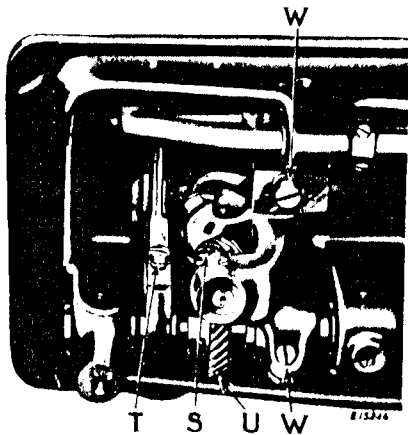

Fig. 21. Adjustment of Hook Saddle
Loosen the two screws in the hub of the hook driving gear (U, Fig. 21) and tap this gear to the right on the hook driving shaft for an earlier hook timing, or to the left for a later hook timing. When the correct timing is obtained, securely tighten the two set screws in the hub of the gear.
Turn the machine pulley over toward you until the point of the sewing hook is at the centre of the needle. Loosen the two screws (W, Fig. 21) underneath the bed of the machine and move the hook saddle to the right or left, as may be required, until the point of the hook is as close to the needle as possible without striking it, then securely tighten the two screws (W).
Remove the bed slide, throat plate, feed dog, and the bobbin case opening lever (U, Fig. 6). Then turn back the machine and loosen the two screws in the hub of the hook shaft gear (S, Fig. 21) and lift out the sewing hook.
Remove the throat plate; clean the lint and dust from between the feed points and replace the throat plate; tip the machine back and turn the machine pulley toward you until the feed dog is at its highest position; loosen screw (T, Fig. 21) in the feed lifting cam fork on the feed bar and raise or lower the feed dog, as may be required, and retighten the screw (T).